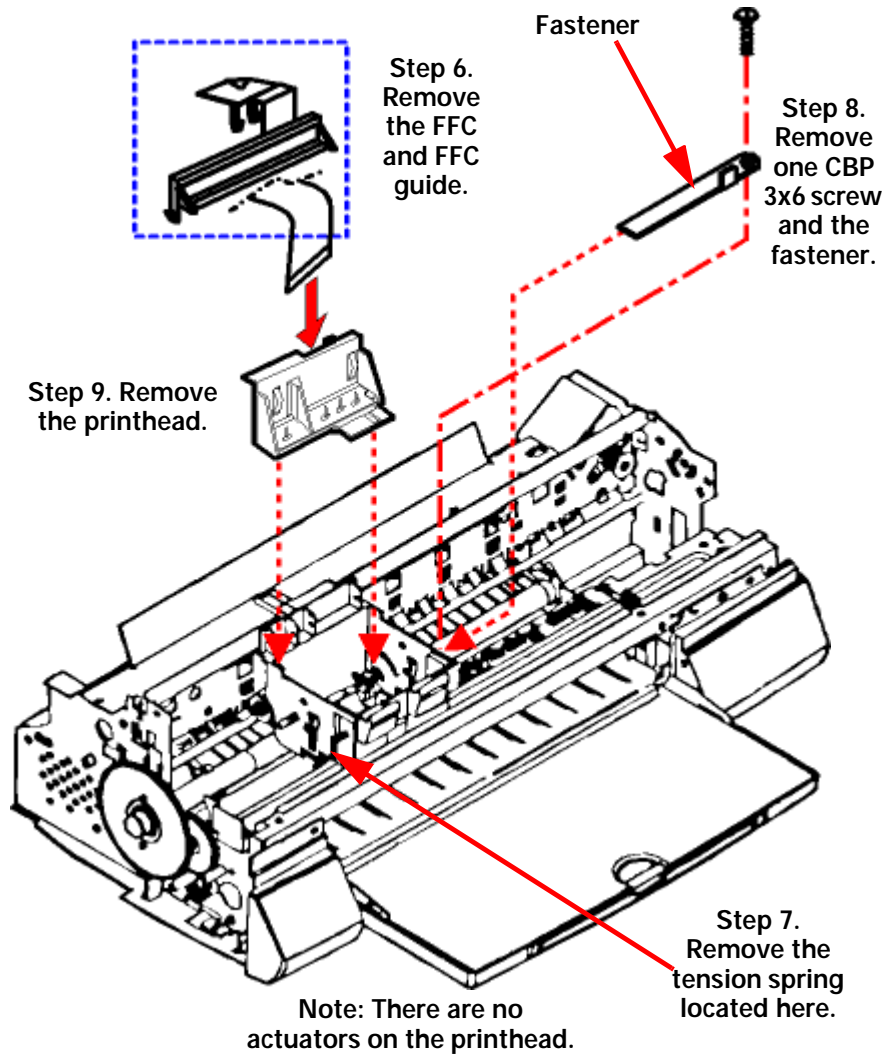

Figure 4-6. Removing the Printhead
6. Remove the carriage FFC and FFC guide as shown in Figure 4-6 on the next page.